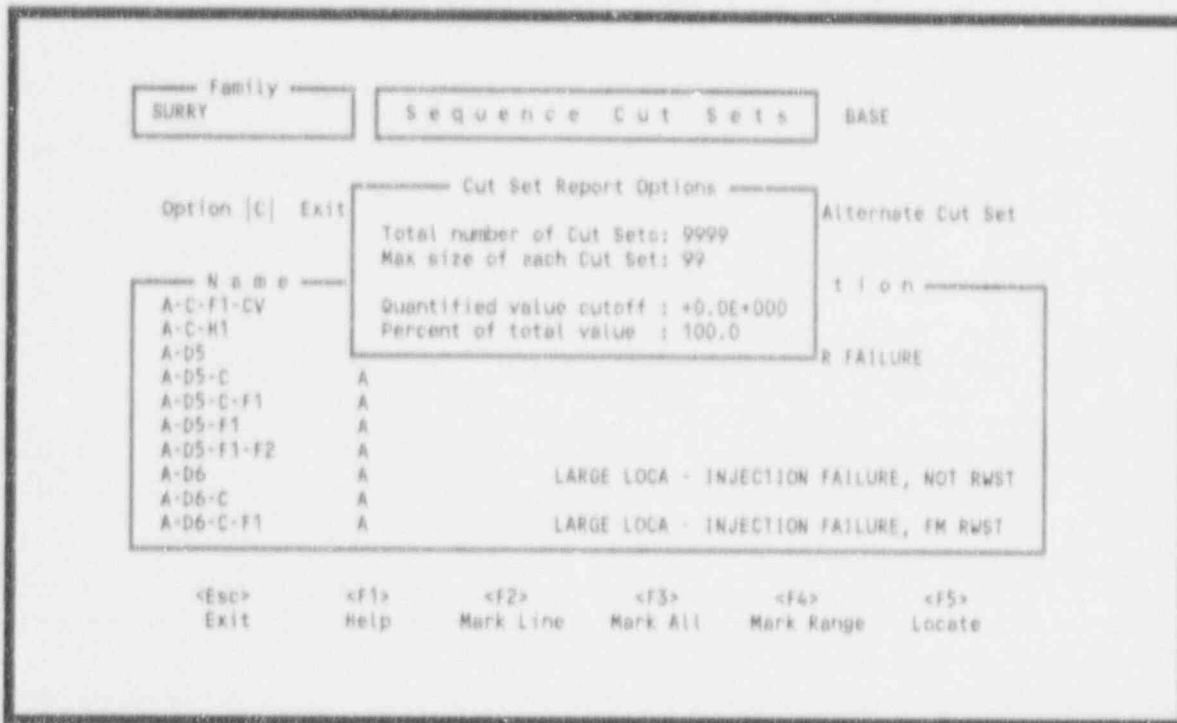

Figure 242. Cut set report options.
10.7.3.1 Cut Set. This option allows you to generate the Sequence Cut Sets Report, which consists of the cut set number, size and cut set name for each selected sequence. To invoke this option, mark the sequence(s) to include, enter a <C> in the option field, and press <Enter>. When you invoke this option, Figure 242 will be displayed. You can modify any of the default values provided by simply typing over the existing data. Upon pressing <Enter>, the output destination screen will be displayed. On this screen, you must select the desired output destination (see Section 10.2.2).
10.7.3.2 Quantified Cut Set. This option allows you to generate the Sequence Cut Sets (Quantification) Report, which consists of the cut set number, percent of total, percent of cut set, probability/frequency and all associated cut sets (alternate or base) for the selected sequence(s). To invoke this option, mark the sequence(s) to include, enter a <Q> in the option field, and press <Enter>. When you invoke this option, a screen similar to the one shown in Figure 242 will be displayed. You can modify any of the default values provided by simply typing over the existing data. Upon pressing <Enter>, the output destination screen will be displayed. On this screen, you must select the desired output destination (see Section 10.2.2).